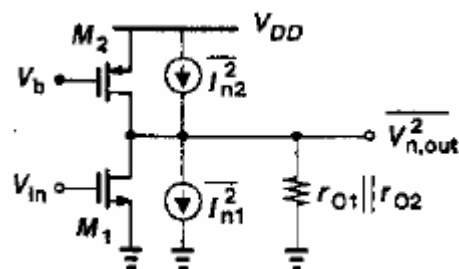

Fig. 2
- Calculate the input-referred thermal noise voltage of the amplifier shown in Fig.2, assuming both transistors are in active region. Also, determine the total output thermal noise if the circuit drives a load capacitance C_L . What is the output signal-to-noise ratio if a low-frequency sinusoid of amplitude V_M is applied to the input.